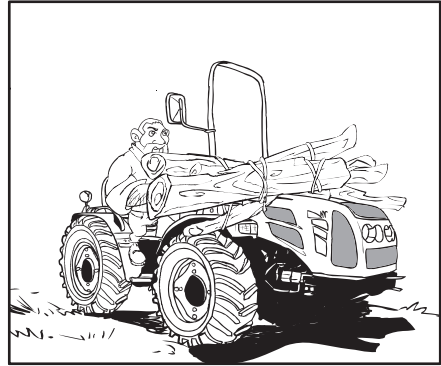

Fig. 2.14
- Do not overload a front implement or a trailer. Use suitable counterweights to maintain tractor stability (Fig. 2.14).